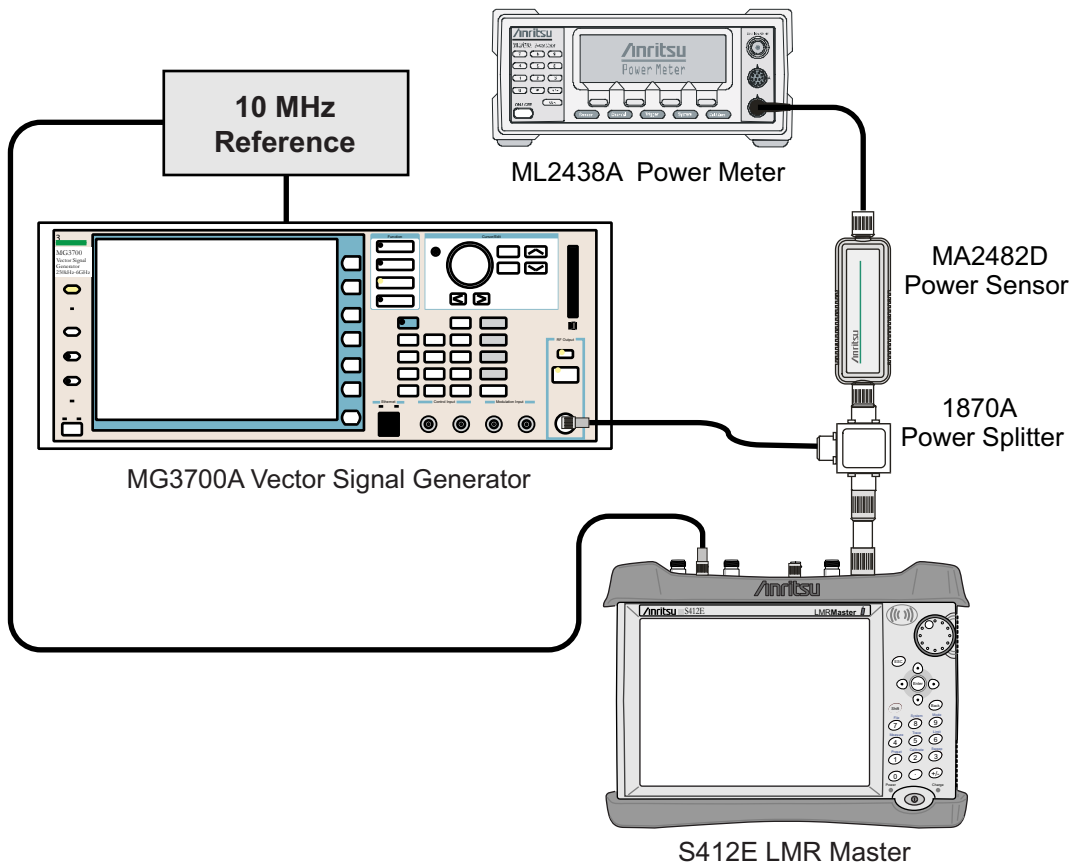

Figure 5-5. GSM/EDGE Signal Analyzer Option Verification
2. Connect the equipment as shown in Figure 5-5.
5. Set the S412E mode to **GSM/GPRS/EDGE Signal Analyzer**. Press **Shift**, then press **Preset** (1) to preset the S412E.
1. Confirm that the equipment settings are unchanged from the previous test. See Figure 5-5 on page 5-28.